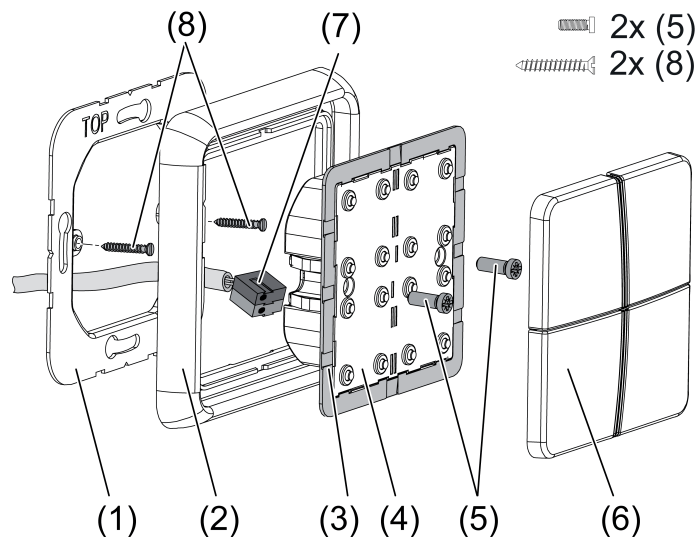
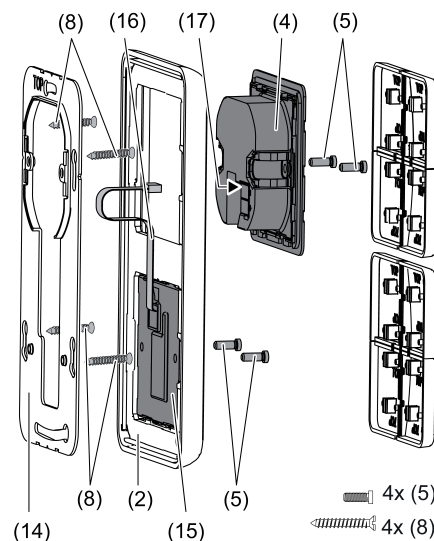

Figure 1: Mounting the push-button module
Figure 2: Mounting with push-button expansion module
- With the adapter frame (3) in the correct orientation, snap it from the front onto the pushbutton module (4) (figure 1). Note marking **TOP**.
When the push-button expansion module is used (figure 2): Preferably mounted vertically. Use large supporting frame (14). When mounting on only one flush-mounted box, countersink the lower screws into the wall, e.g. with a  $\varnothing 6 \times 10$  mm hole. Use supporting frame as template.
- Mount supporting frame (1) or (14) in the correct orientation on an appliance box. Note marking **TOP**; marking **A** or **B** in front. Use only the enclosed box screws (8).
- Push frame (2) onto supporting frame.
- Mount push-button sensor expansion module (15) preferably below. Route connecting cable (16) between supporting frame and intermediate web.
- Push-button expansion module: Insert connecting cable (16) in the correct orientation into slot (17) in the push-button module. Do not crimp the connecting cable (figure 1).
- Connect push-button module (4) to the KNX using KNX connecting terminal (7) and push onto the supporting frame.
- Fasten pushbutton module(s) to supporting frame using the enclosed plastic screws (5). Tighten the plastic screws only lightly.
- Before mounting the buttons (6), load the physical address into the device (see chapter 4.2. Commissioning).